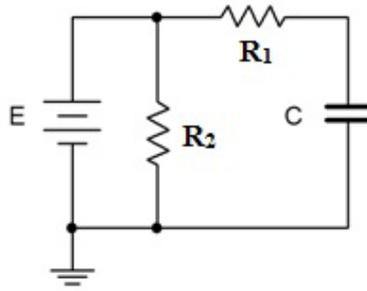

Figure 1.2
4. Using figure 1.2 with $E=10\text{V}$, $R_1=47\text{k}$, $R_2=10\text{k}$ and $C=1\text{ }\mu\text{F}$, calculate the time constant and record it in Table 1.3. Also, calculate and record the expected steady state capacitor voltage in Table 1.4.